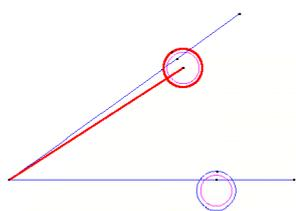

Figure 10. The two lines selected
- 3 . Select the line resulting from the 33-degree rotation executed in section 2.6 (see Figure 10).